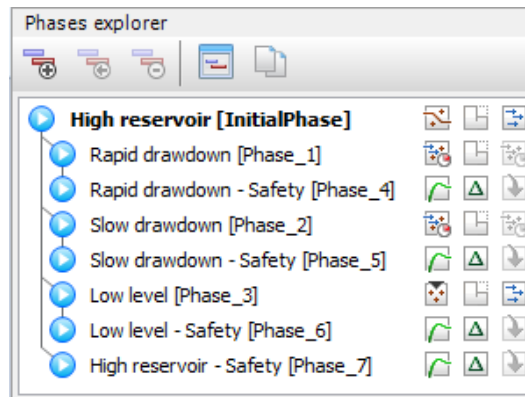

Figure 7–9: The final view of the Phases explorer
- The situation with a high (standard) reservoir level - See Figure 7–10 \(p. 145\).
- The situation after rapid drawdown of the reservoir level - See Figure 7–11 \(p. 145\).
- The situation after slow drawdown of the reservoir level - See Figure 7–12 \(p. 146\).
- The situation with a low reservoir level - See Figure 7–13 \(p. 146\).